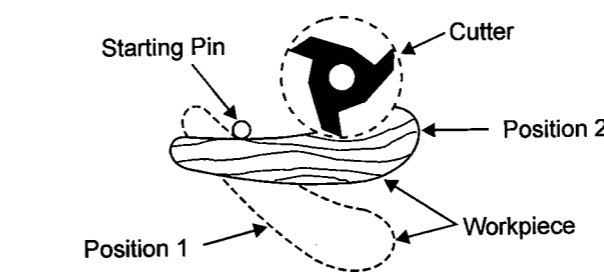

FIGURE 25
1. The work should be placed in the first position, Figure 25, using the starting pin as a support.